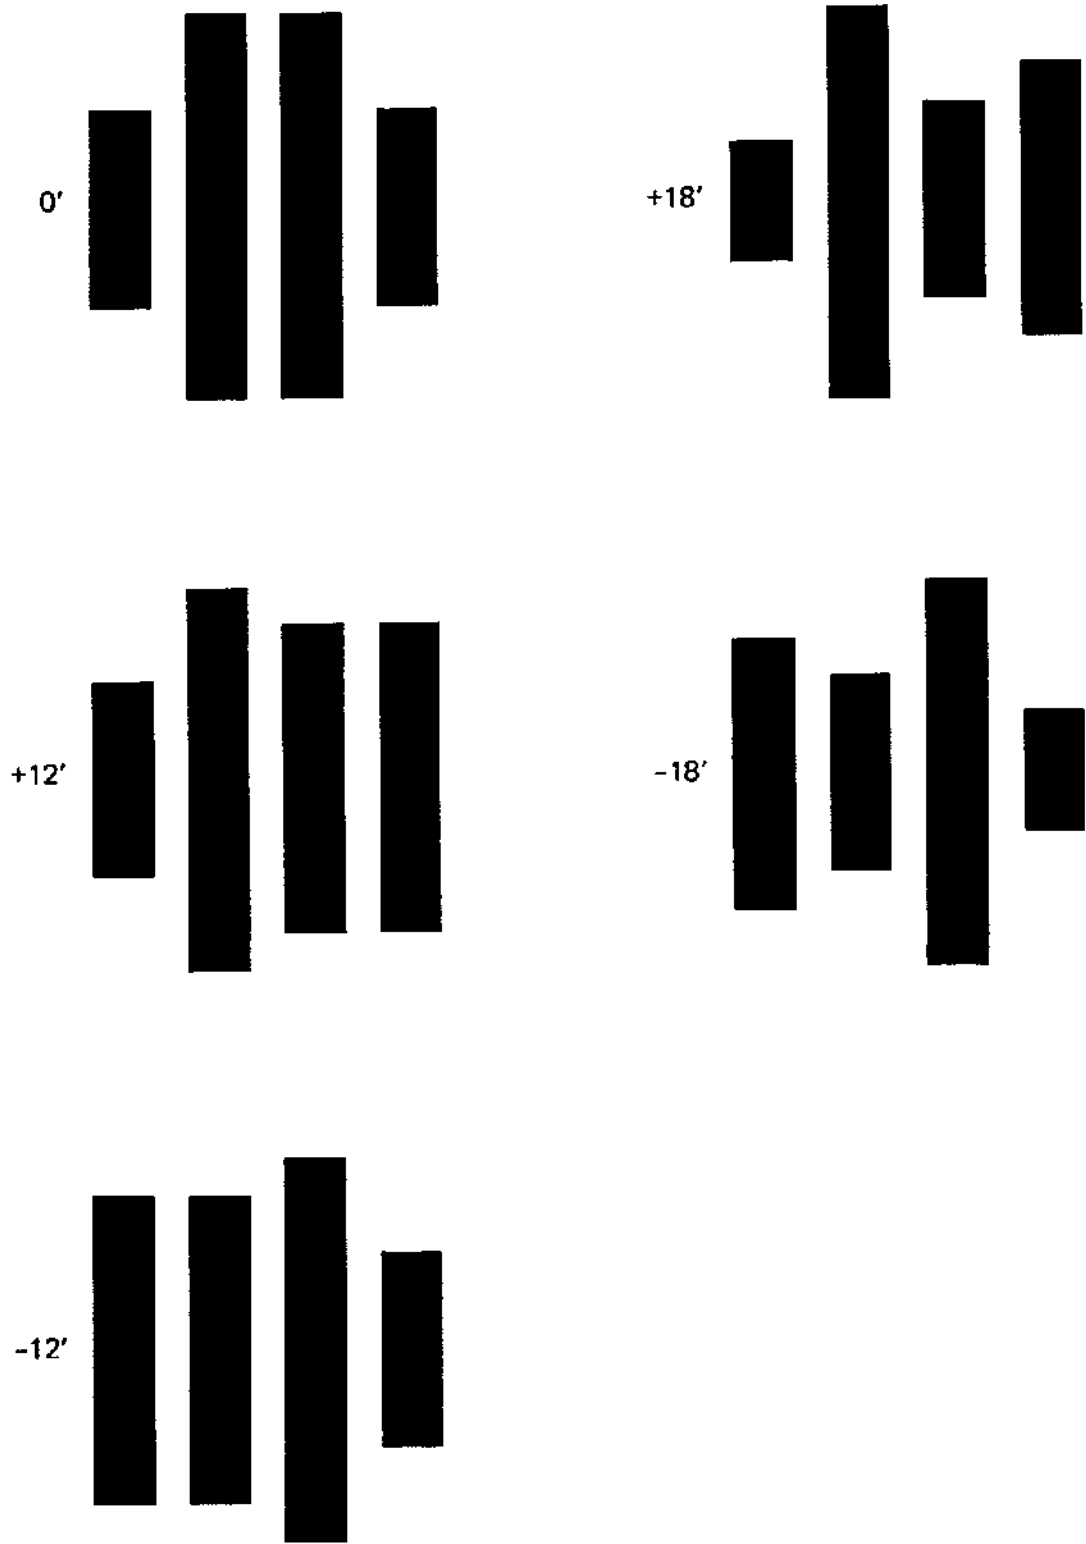

FIGURE 48. AZIMUTH BURST PATTERNS
- d. Compare waveform to Figure 48. If not within the range shown replace the Head Actuator Assembly 2.4.10.1